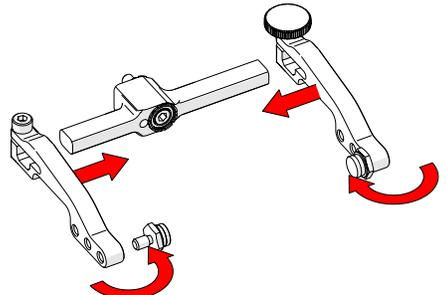

Fig. 62 - Attach arms & move buttons
5. Place the pivot buttons on the inside of the probe holder arms (Fig. 62) using a 3/8 in wrench (Fig. 15).